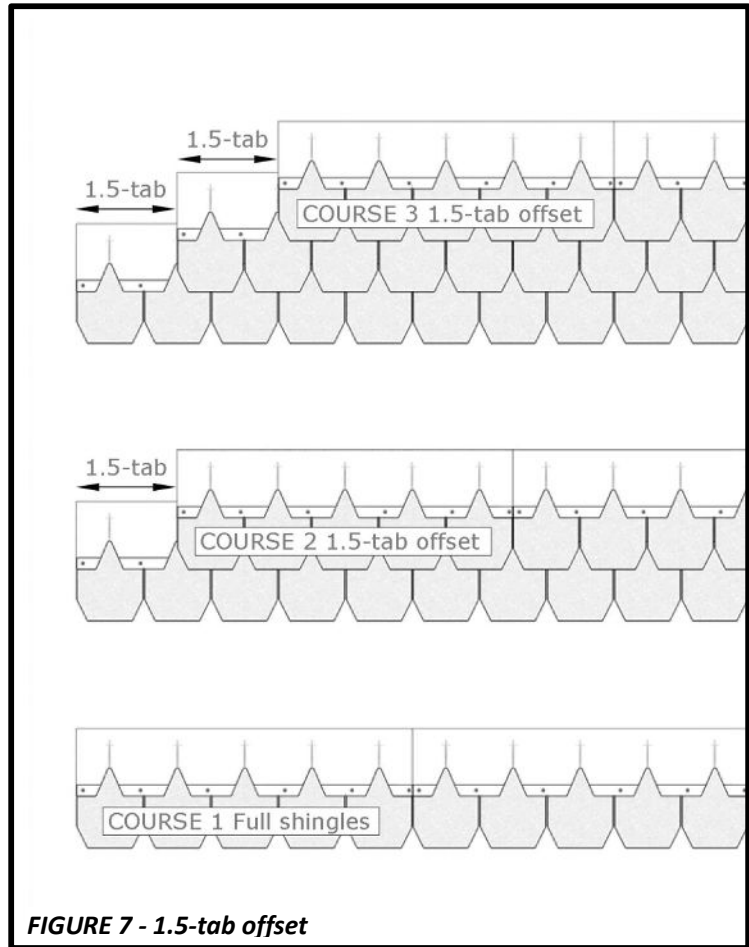

FIGURE 7 - 1.5-tab offset
- The offset between courses of Designer Slate: Estate Series shingles must be **1.5 tabs**. See **Figure 7**.